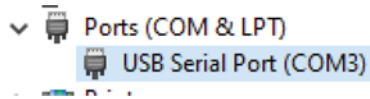

Fig. 11.4: Getting the COM port number from the windows device manager
- Step 3: Find entries that say *USB Serial Port*. Figure 11.4 shows an example where the COM port number is COM3. Note: The DE10-Nano board needs to be plugged into the Mini-B USB cable for the COM port to show up in Windows.